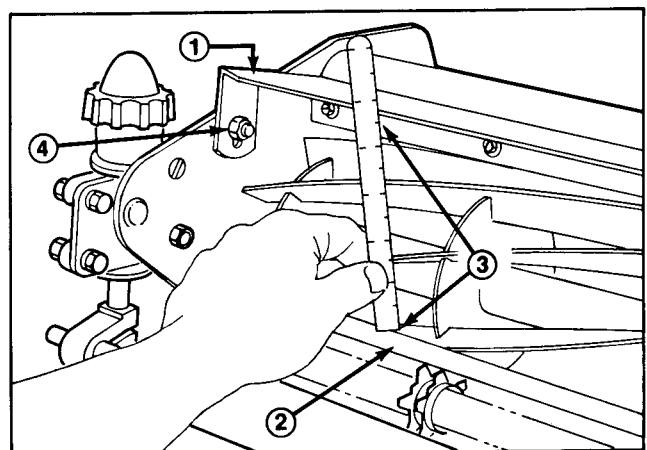

Figure 20
1. Set cutting unit in normal cutting position and measure distance from top of front crossbar to shield at each end of cutting unit (Fig. 20).
2. Height of shield from crossbar for normal cutting conditions should be 4-3/4 inches. Loosen capscrews and nuts securing shield to each side plate, adjust shield to correct height and tighten fasteners (Fig. 20).